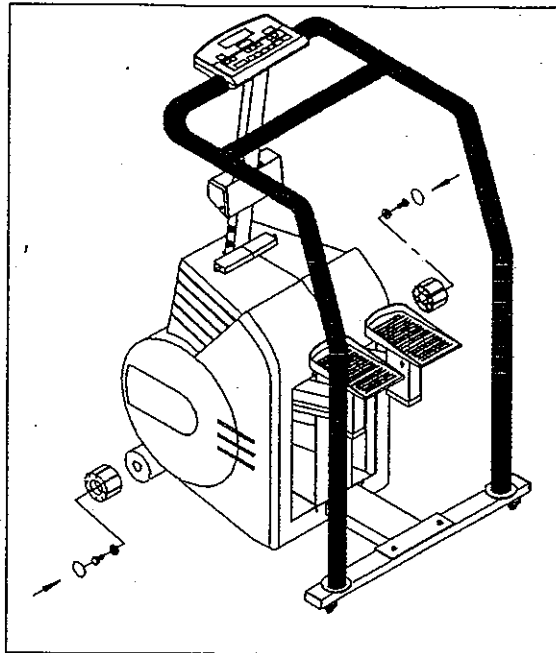

Fig. 24
9. Replace the transport wheels, tighten with screws and washers, then cover with labels (see Fig. 24).